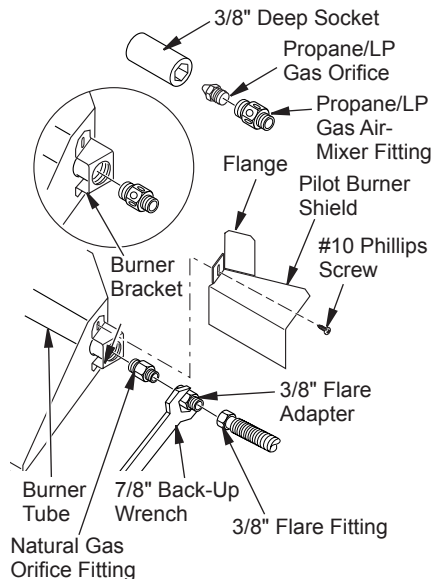

Figure 4 - Removing/Replacing Main Burner Orifice
- Using a #10 short Phillips screwdriver, remove top mounting screw holding pilot burner shield in place (see Figure 4).
- With orifice mount exposed, use a 7/8" open-end back-up wrench on 3/8" flare adapter and remove 3/8" flare fitting at the end of 3/8" flare adapter. This will prevent spinning and damage to the flexible tube (see Figure 4).
- Thread the propane/LP gas orifice into the propane/LP gas air-mixer fitting using a 3/8" deep socket driver. *Note:* LP gas air-mixer fitting has six (6) holes. The natural gas fitting has no holes.